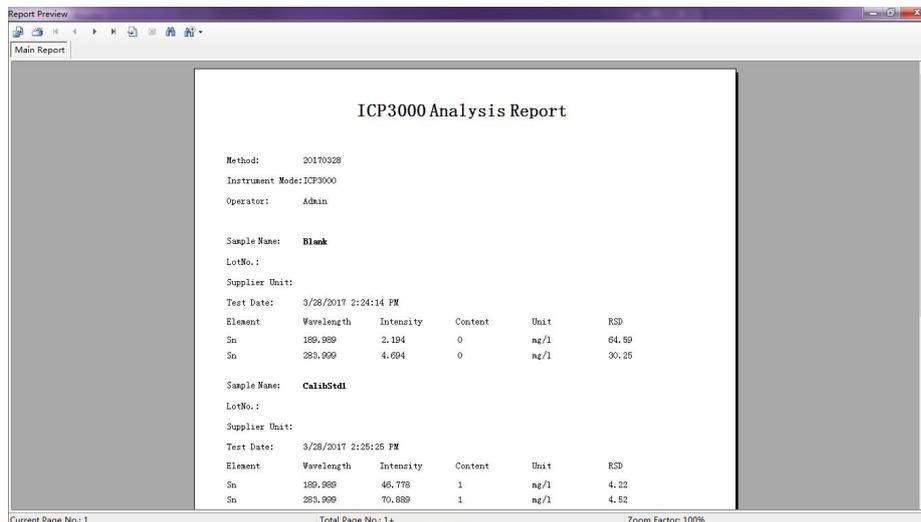

Fig.6.22
3. Export report: select the valid data, export the report (Figure 6.22), or print it out;